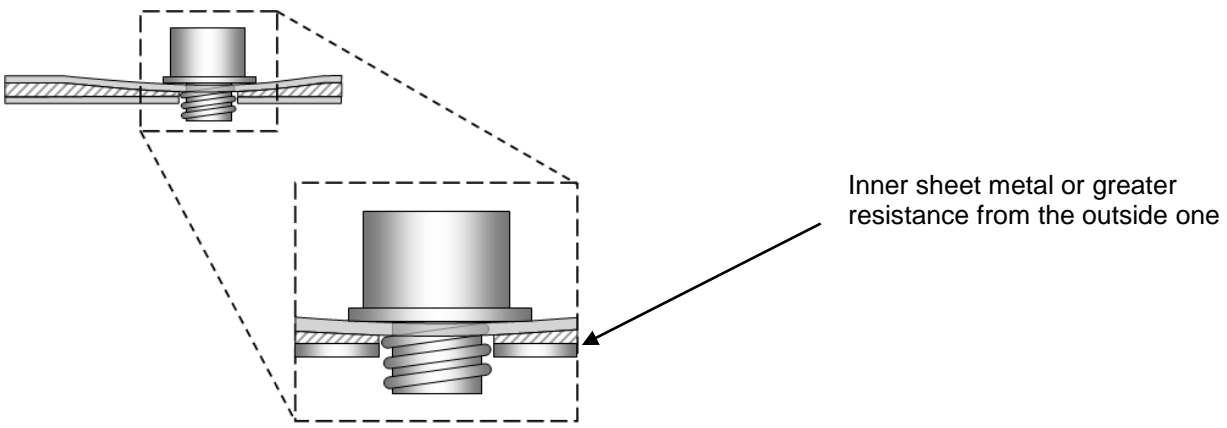
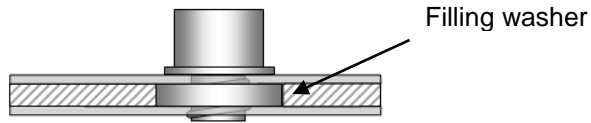
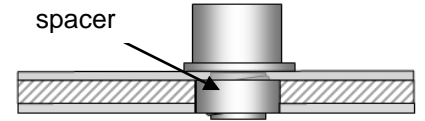

Fig. 12
Fig.13
Fig.14
Additionally, if the hole presents itself with a double inner sheet metal fold with excessive thickness – you may avoid any undesirable skin deformation of the sheet metal creating a visible bruise (Fig.12) it is recommended to proceed with one of the following two solutions in the event it is not possible to relocate avoiding an excessively thick double inner sheet fold: (A) use a filling shim spacer washer (not supplied) inserted inside and positioned between the two skins (fig. 13) or, (B) use a filling shim spacer washer (not supplied) inserted externally in a counter bored recess drilled into in the exterior sheet metal. The counter bore recess edge should be of a diameter that doesn't exceed the maximum dimensions of any edge of the lock housing so that all remains hidden externally (fig. 14).